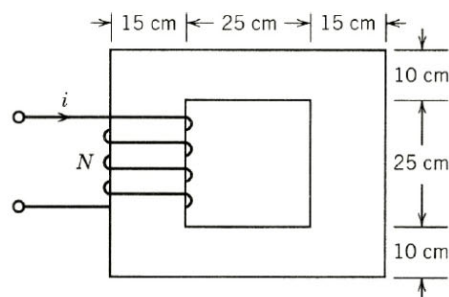

FIGURE P1.2
- 1.2** In the magnetic system of Fig. P1.2 two sides are thicker than the other two sides. The depth of the core is 10 cm, the relative permeability of the core $\mu_r = 2000$, the number of turns $N = 300$, and the current flowing through the coil is $i = 1$ A.